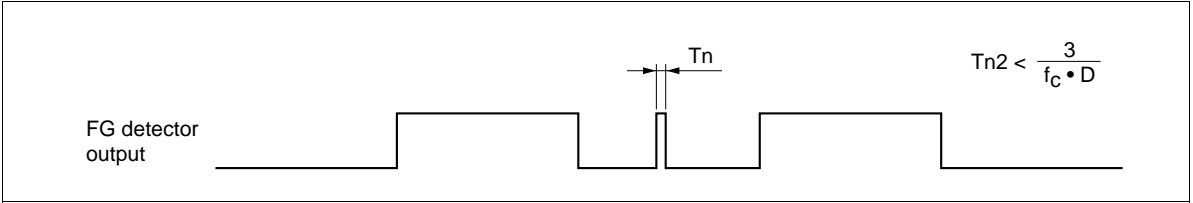

Figure 6
8. Refer to the operation and the formula for determining the maximum cancelable noise width Tn (figure 6).